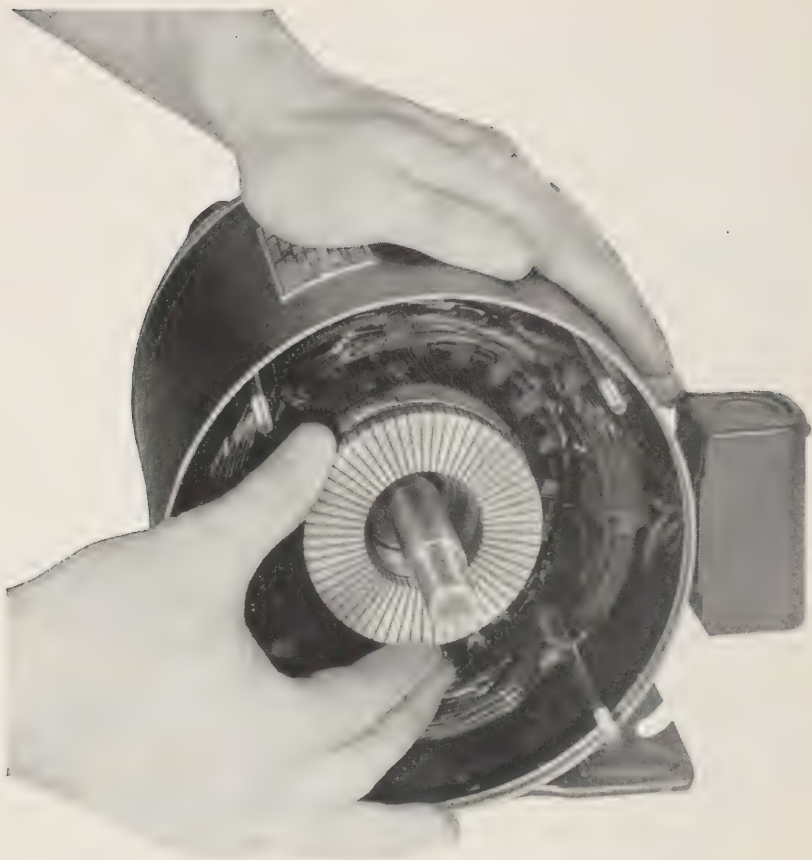

Figure 64. Removing the armature.
- (1) Remove the motor. (See par 58 l.)
- (2) Remove the pulley end plate by removing the 4 end plate bolts and nuts.
- (3) Remove the end plate by tapping around the flange until the plate is free and can be removed from the shaft.
- (4) Grasp the shaft and pull the armature forward until it is clear of the field coils and motor frame (fig 64).